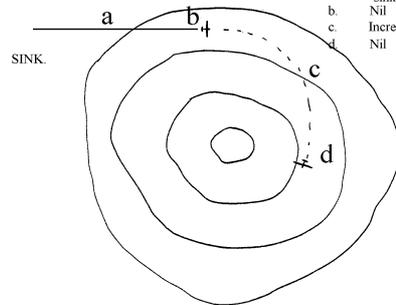

FIG 4. ENTERING ONE EDGE.
5. Flying through the edge of the thermal (Fig. 4) the glider will be flying along a set of "contours", and there will therefore be **minimal lift** sensation. Bear in mind that the sensation of being lifted is an **acceleration** upwards (or, confusingly, it may be a slackening of downward acceleration!) and in order to **feel** such lift it would be necessary to be flying into air which was rising more quickly than that which has just been left behind. At the same time, the wings are disposed at right angles to the lift contours and therefore there would be **maximum tilt**.